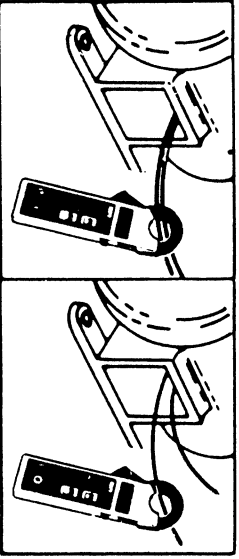

Fig. 1
- (1) Turn the instrument on by sliding the OFF/ON switch to the ON position.
- (2) Set the range switch to the Amp "A" position.
- (3) Press the trigger to open the transformer jaws and clamp onto one conductor only (Fig. 1). Read the current directly on the display. It is recommended that the conductor be placed at the center of the closed jaws for maximum accuracy.